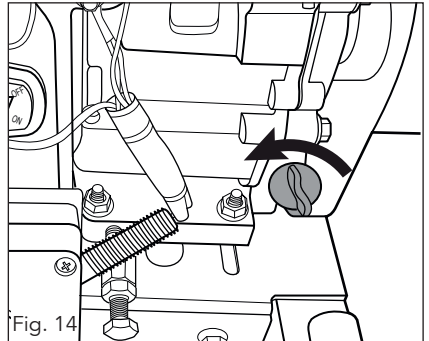

Fig. 14
2. Remove the oil filler cap (6), and wipe the dipstick with a clean rag. Check the oil level by inserting the dipstick in the filler hole without screwing it in and then removing it again (fig. 14).